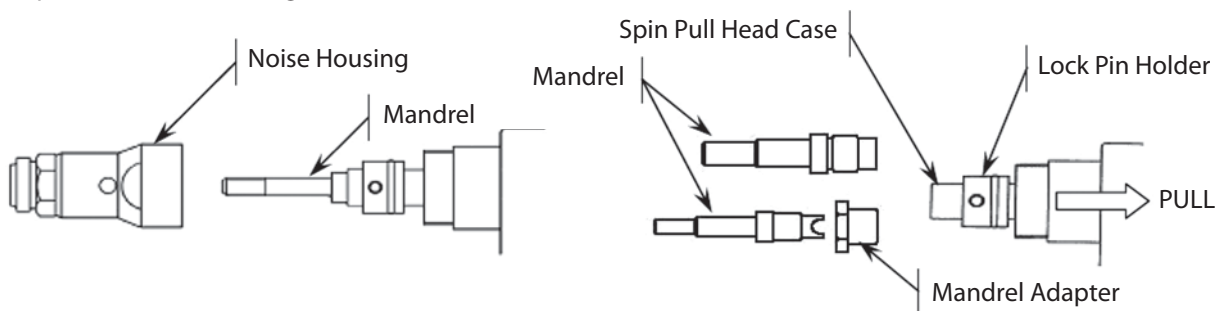

Figure 5: Mandrel Installation
3. Remove the Nose Housing from the tool to expose the Mandrel and Spin Pull Head Case (Figure 5).